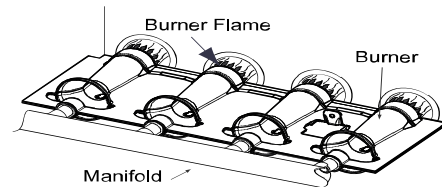

Fig. 61 – Burner Flame
- i. When correct input is obtained, replace cap that conceals gas valve regulator adjustment screws. Main burner flame should be clear blue, almost transparent (**Fig. 61**).